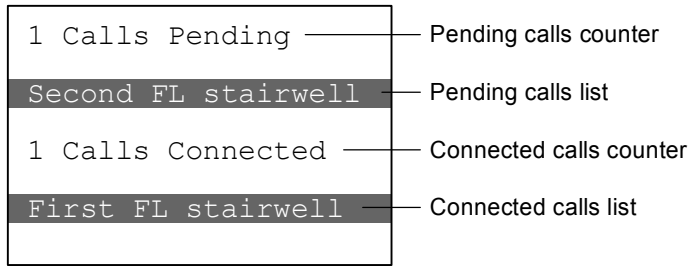

Figure 4-5: One connected call and one pending call
3. To answer the selected call, press the Connect switch. The call identifier will move from the pending calls identification line of the display to the connected call list at the bottom of the display, as shown in Figure 4-5. Once connected, you may begin your conversation.
Notice in Figure 4-5 that the calls connected counter indicates one call connected, the first floor stairwell phone, and the pending call counter decremented to show the one remaining incoming call from the second floor stairwell phone.